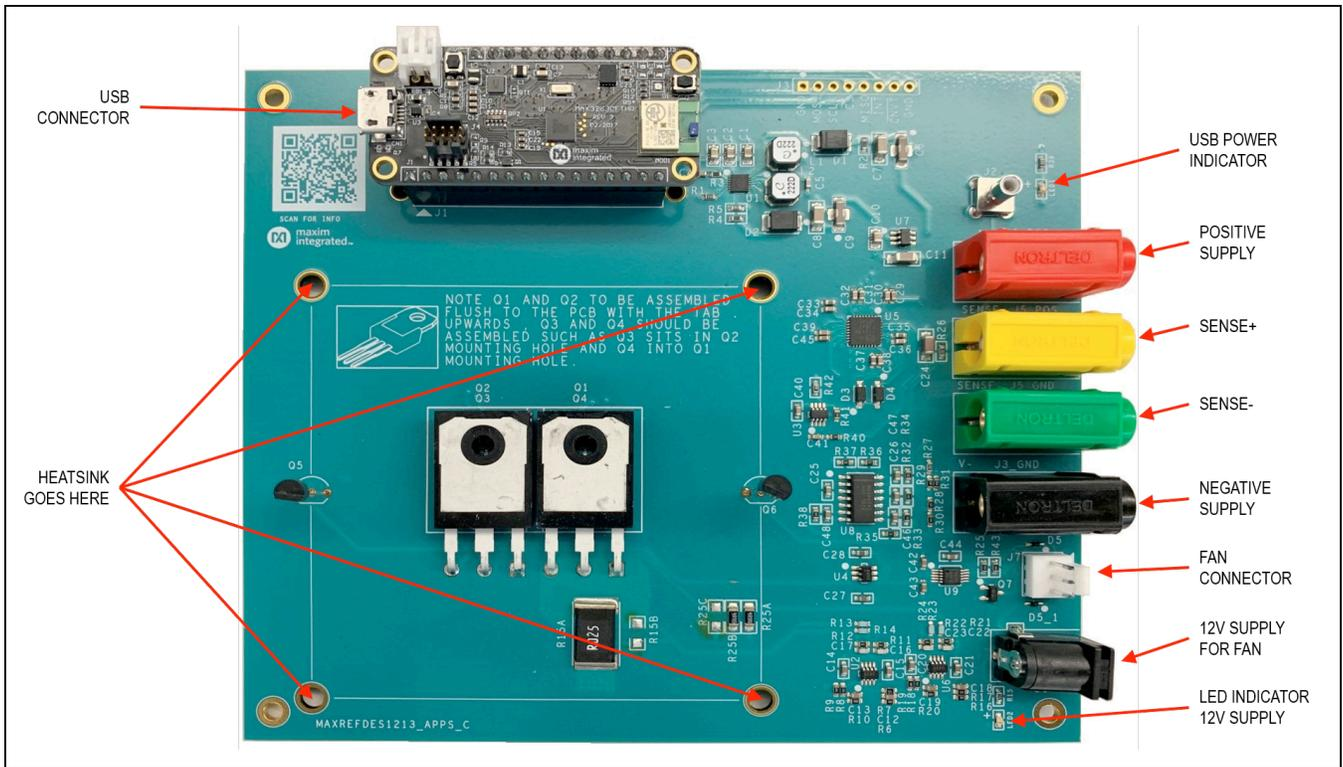
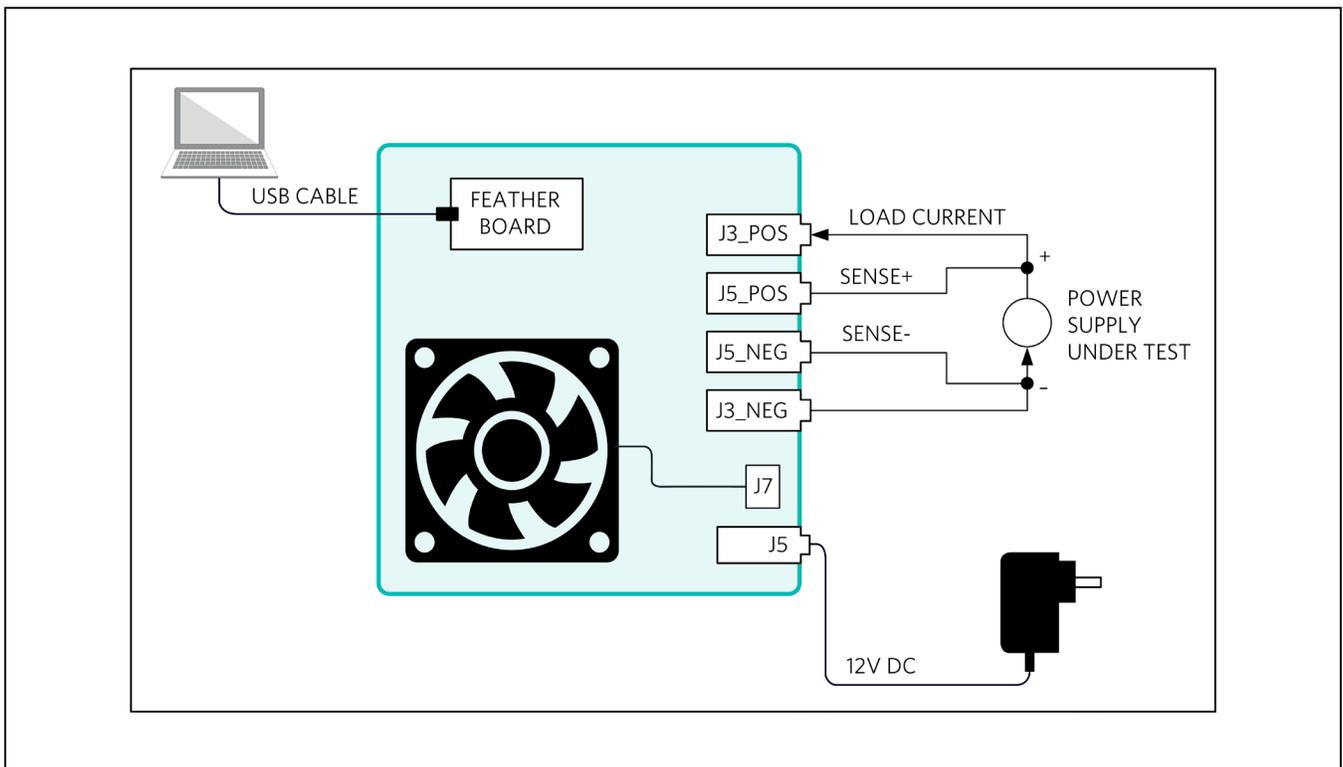

Figure 1. MAXREFDES1213 hardware.
Figure 2. E-load functional diagram.
This document describes the hardware shown in Figure 1. It provides a detailed, systematic technical guide to use the small size, low-cost, portable E-load and run the accompanying PC software. The design has been built and tested, details of which follow later in this document. Figure 2 shows the functional diagram of the E-load.
Figure 1 highlights all of the connections for the following hardware components:
- 1) Connect the MAX32630FTHR (FTHR) to the MAXREFDES1213, as shown in Figure 1. The MAX32630FTHR board is powered by the USB connection.